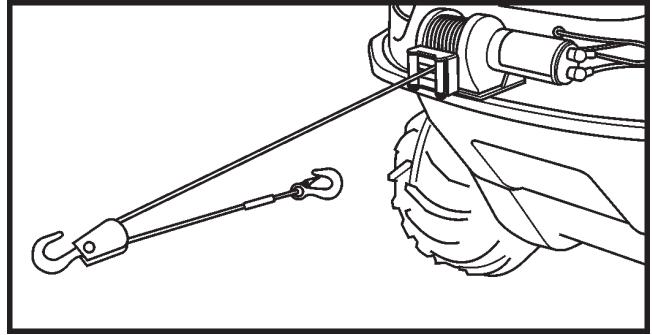

Figure 11-7 Double Line.
BEFORE INSTALLING THE RUBBER TRACK SYSTEM, IT IS CRITICAL THAT TIRE SIZING IS PERFORMED AND THE TIRES INSTALLED AS SHOWN IN THE CHART (Figure 11-7).
1. The winch is rated at 3,500 pounds (single-line) capacity. **DO NOT OVERLOAD. DO NOT ATTEMPT PROLONGED PULLS AT HEAVY LOADS. DO NOT MAINTAIN POWER TO THE WINCH IF THE MOTOR STALLS.** Overloads can damage the winch and/or the wire rope and create unsafe operating conditions. For heavy loads, we recommend the use of the optional pulley block and hook assembly (Warn Part No. 28881 or Superwinch Part No. 1503) to double line the wire rope (Figure 11-7). This reduces the load on the winch and the strain on the wire rope by approximately 50%.